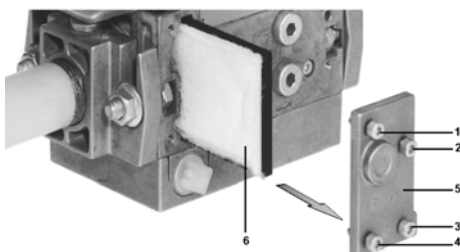

Fig. 25
- 2 Remove screws 1 ÷ 4 using the Allen key n. 3 and remove filter cover 5 in Fig. 25.